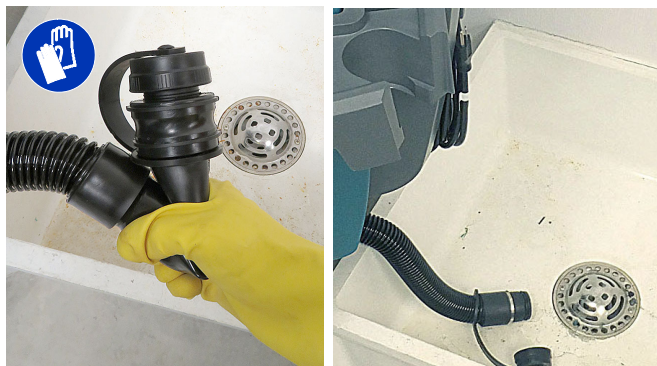

FIG. 92
1. Drain and rinse out the recovery tank (Figure 92). See DRAINING TANKS.